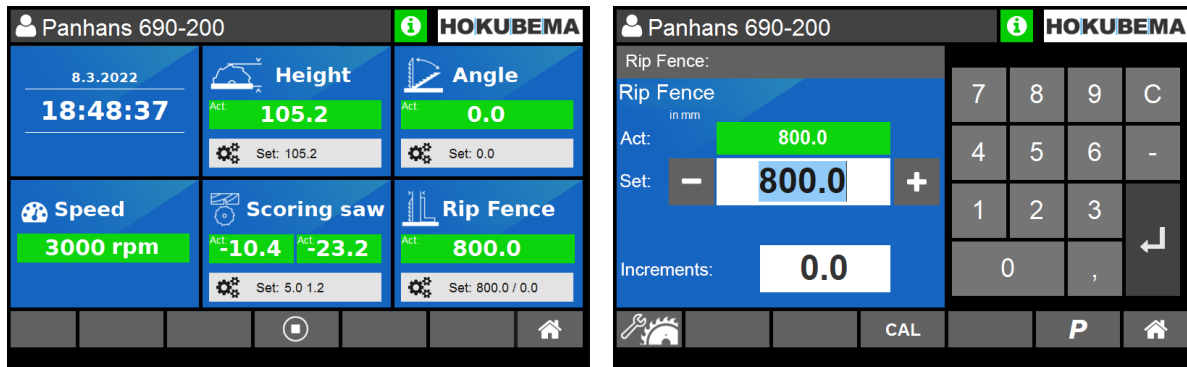

Figure 34: Rip fence positioning
1. To be able to fold away the rip fence, select the symbol **P** (see ⇒ Figure 34).
3. Then press the positioning button (2)
1. To calibrate the rip fence, select the button **CAL** (see ⇒ Figure 34).
3. When the positioning button (2) flashes, press the button.
1. To enter an offset value press the button  (see ⇒ Figure 34 on the right).